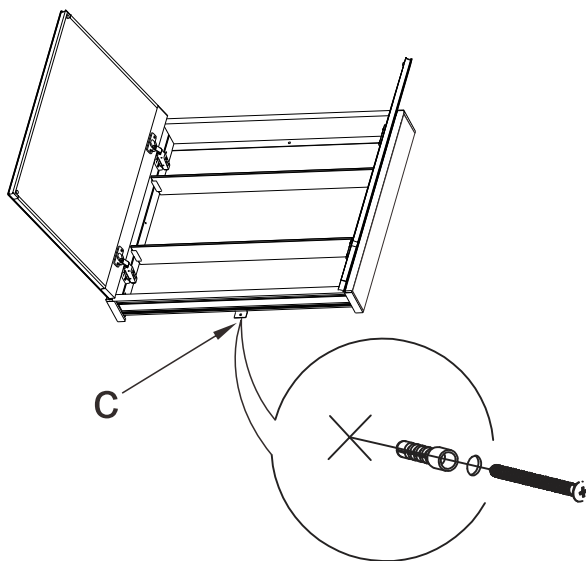

Fig.7
- 2.5 Remove the mirror cabinet, drill the fixing hole in the wall in the marked position, and place the expansion plugs (Fig.7).